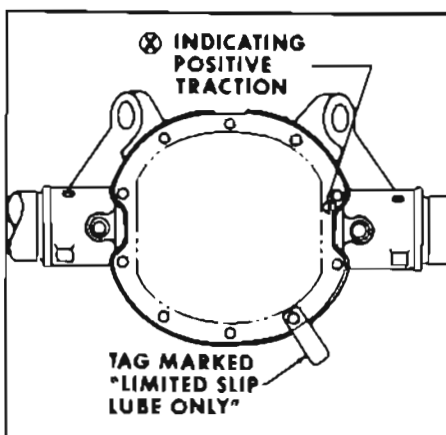

Figure 1-7—Differential Filler Plug (Positive Traction Shown)
filler plug opening to 1/4" below by adding SAE 90 Multi-Purpose Gear Lubricant (MIL-1L-2105-B). See Figure 1-7. When car is operated in temperatures continuously below -10°F., use SAE 80 Multi-Purpose Gear Lubricant.
**7. Positive Traction Differential Rear Axle.** Identified by embossed tag attached to the axle cover lower bolt stating "Use limited slip differential lube only." Check lubrication level after allowing time for lubricant to settle. Clean the surrounding area before removing filler plug. Level should be maintained at filler plug opening to 1/4" below by adding lubricant conforming to Buick Specification #723 only, as specified in paragraph 1-9. See Figure 1-7.